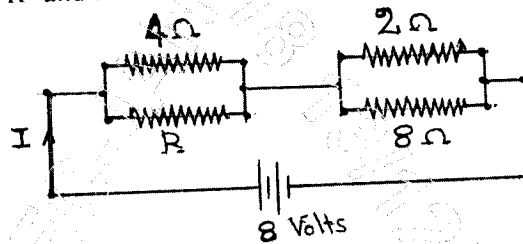

Fig. Q2(b)
- The total power consumed by the network shown in Fig. Q2(b) is 16 watts. Find the value of 'R' power dissipated in 'R' and total current. (06 Marks)